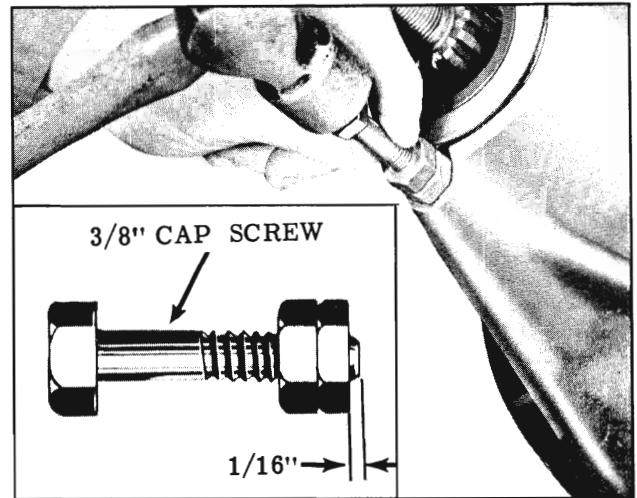

Fig. 6-12 Installing Cup Plug
5. Coat O.D. of a new plug with sealer, Part No. 557622, then drive plug into oil drain galley until it is FLUSH with carrier. (Fig. 6-12)